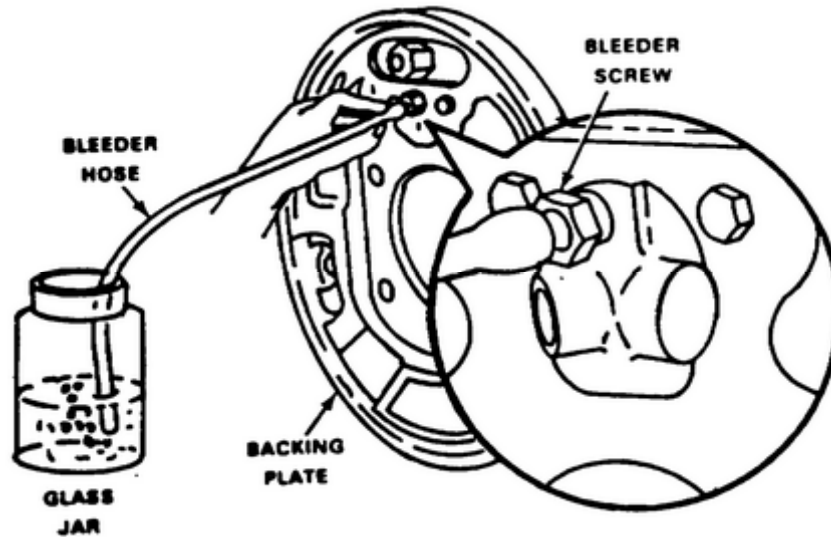

FIGURE 72. ATTACHING BLEEDER HOSE
- c. Refer to Figure 72. Attach the bleeder hose, part number B75 or B5156, to each bleeder screw in turn and insert the open end of the hose into the bottom of a glass container. The end of the hose should be submerged in the fluid. Open the screw to permit all air to escape. Watch for air bubbles in fluid for a positive check. When fluid flows clear without air bubbles, close the bleeder screw and tighten it securely.